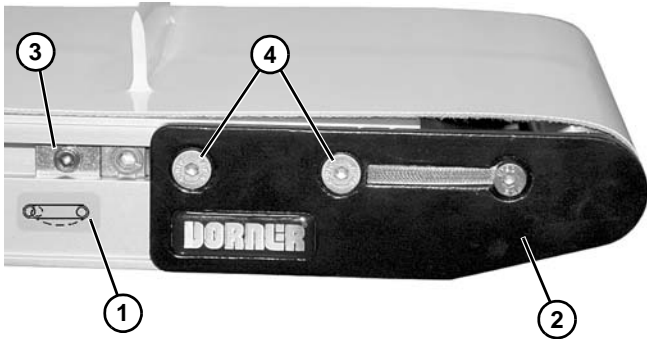

Figure 32
5. On tension end of the conveyor, identified with  a label (**Figure 32, item 1**), push in head plate assembly (**Figure 32, item 2**):
- a. On both sides of conveyor, loosen and move cam tracking assemblies (**Figure 32, item 3**) (if equipped) away from head plates.
- b. Loosen fastening screws (**Figure 32, item 4**) and push head plate assembly inward.